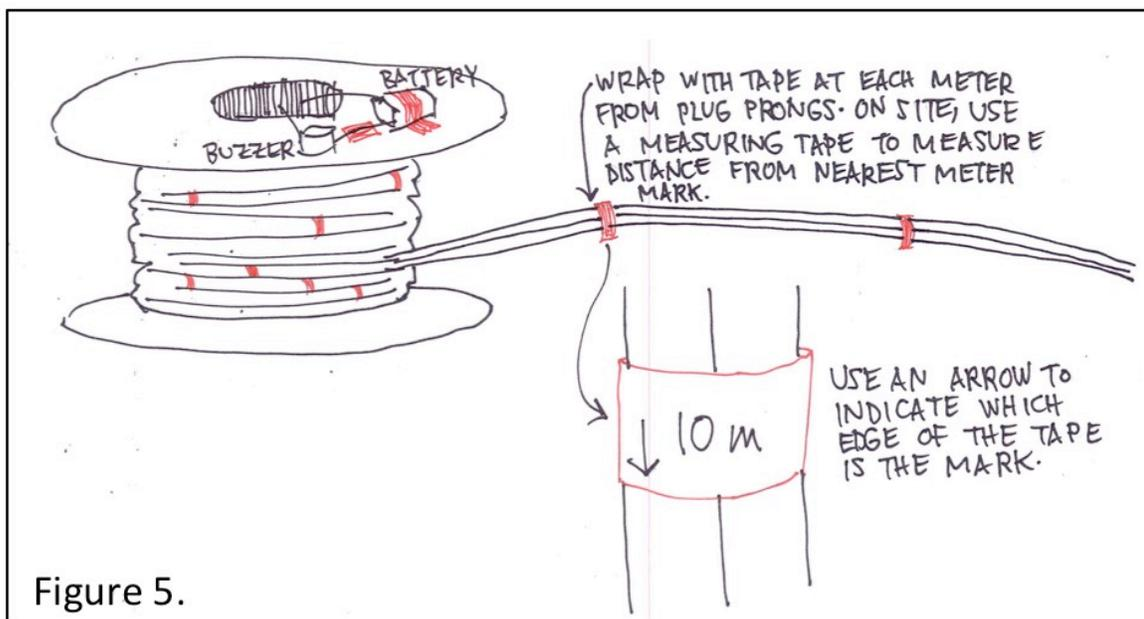

Figure 5.
4. See figure 5, below. From the plug end, use tape to mark 1 m (or any interval) measurements. Label each mark. In the field, you can measure the distance between the marks using a tape measure to get the exact depth to water table.